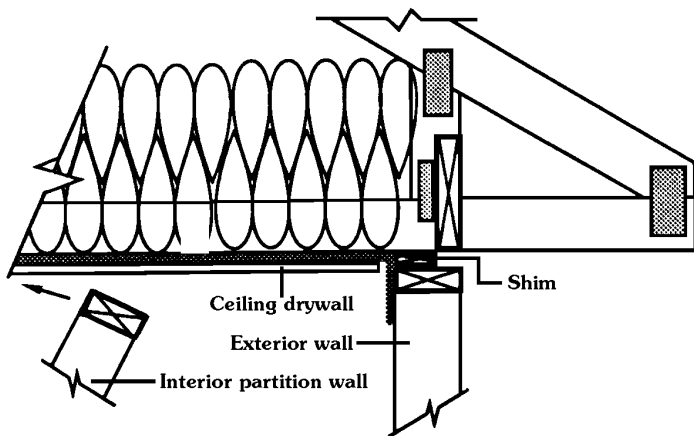

Figure 7.17: Using shorter stud length to fit under ceiling drywall
- Standard-length studs can be used for interior partition walls if a 1 x 4 shim plate is placed on top of the exterior wall top plate (Figures 7.17 and 7.18). This raises the trusses and allows enough room for $\frac{5}{8}$ -inch thick drywall and for tilting the partitions into place. Alternatively, studs will need to be cut $\frac{5}{8}$ inch shorter. Drywall can be taped before the wall is raised.